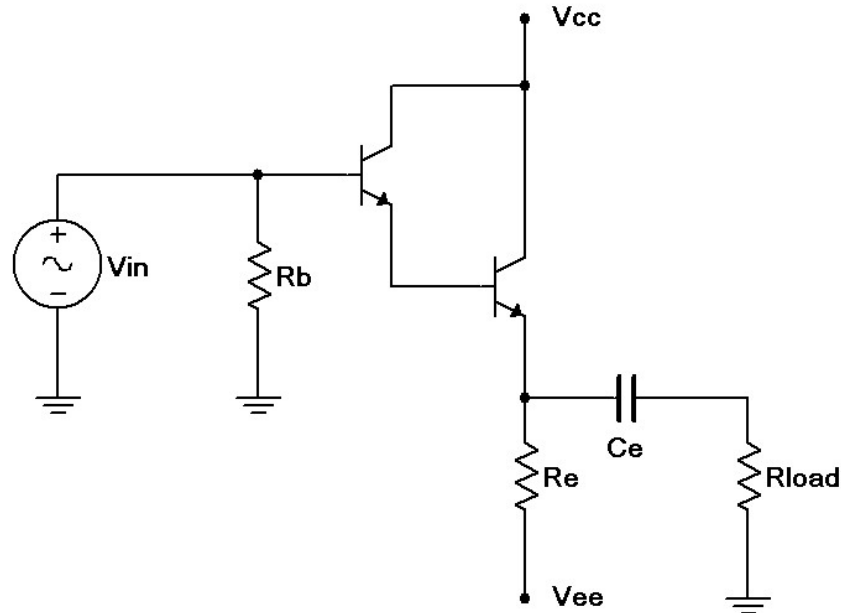

Figure 1
1. Consider the circuit of Figure 1 using $V_{CC} = 5$ volts, $V_{EE} = -12$ volts, $R_b = 47$ k Ω , $R_e = 1$ k Ω , $R_{load} = 100$ Ω and $C_e = 470$ μ F. Determine the theoretical I_{CQ} , V_{CEQ} , $V_{CE(cutoff)}$ and $i_{C(sat)}$, and record these in Table 1. It is helpful to plot the AC load line for step three. Note that the collector-emitter saturation voltage for a Darlington pair cannot be assumed to be 0 volts, and may be closer to one volt, thus reducing the expecting voltage swing toward the saturation point. It is also worth noting that this amplifier has a *direct coupled* input (i.e., no input capacitor is required due to the very small DC base voltage).
2. Build the circuit of Figure 1 using $V_{CC} = 5$ volts, $V_{EE} = -12$ volts, $R_b = 47$ k Ω , $R_e = 1$ k Ω , $R_{load} = 100$ Ω and $C_e = 470$ μ F. Disconnect the signal source and measure the DC transistor voltages to ensure the circuit is biased correctly. Record V_{CEQ} and I_{CQ} in Table 1 (Experimental).